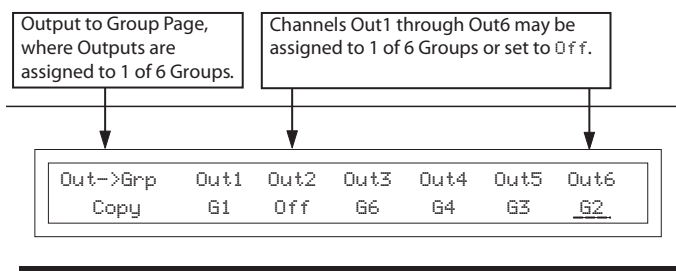
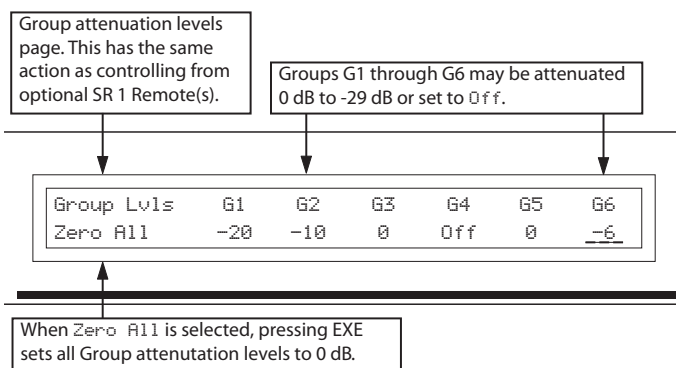
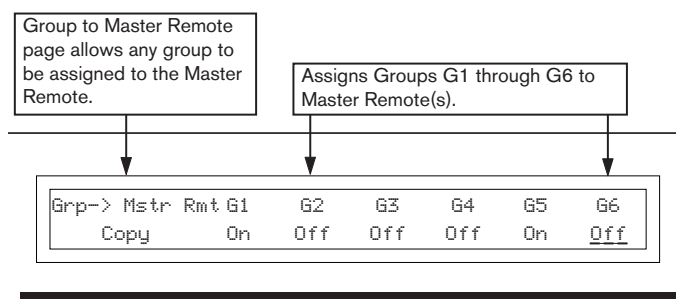
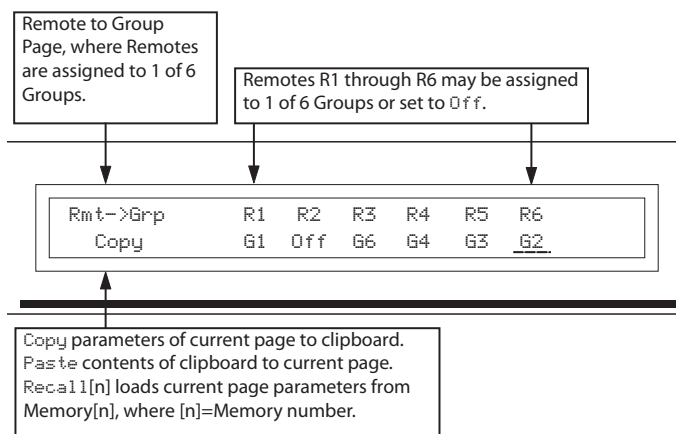

Figure 2. Output to Group Edit Page
Figure 3. Group Levels Edit Page
Figure 4. Group to Master Remote Assign Page
Figure 5. Remote to Group Assign Page
The Output to Group Assign page is shown in Figure 2. Outputs can be assigned to 1 of 6 Output Groups or no Group (*off*). For example, a stereo Output pair would typically be assigned to the same Output Group in order to ensure that the two stereo Outputs limit together and are controlled by the same Output Group Level. Output Group Levels may be controlled from the Group Level page shown in Figure 3 or by any SR 1L remote assigned to the Group on the Remote to Group page shown in Figure 5.
The Group to Master Remote assignment page is shown in Figure 4. Any number of the six (6) possible Output Groups can be assigned to the Master Group. The Level of all Output Groups assigned to the Master Group can be controlled by the MST control on the Group Level page shown in Figure 3 or by any SR 1L remote assigned to the Master Group on the Remote to Group Assign page shown in Figure 5. This feature allows SR 1L remotes to independently control the level of up to six Zones while allowing one or more Master Remotes to control the level of all Zones.